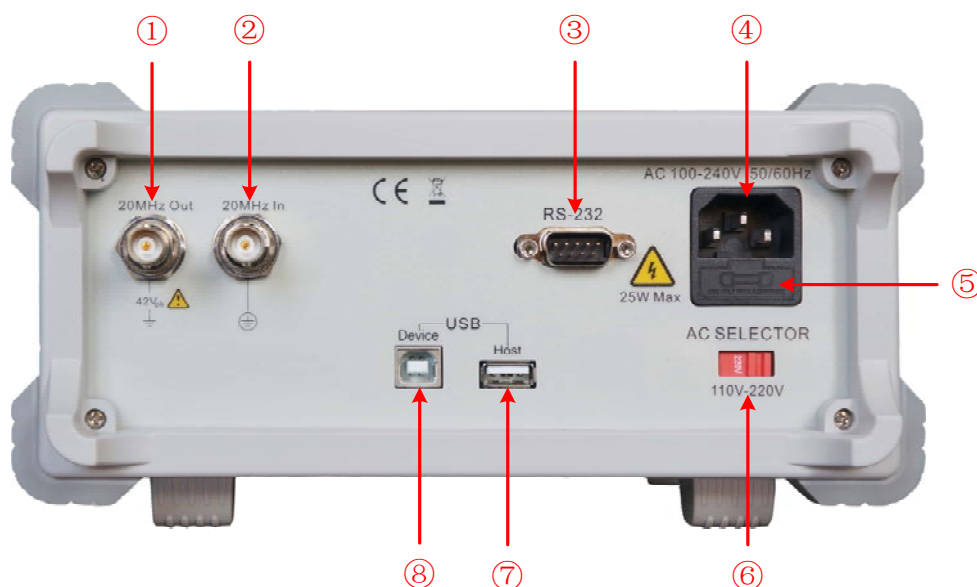

Figure 4-2 Rear panel overview
AG1022 adopt 110V/220V AC power source. Users should regulate the voltage scale of the **Power Switch** according to the standards in their own country (see *Figure 4-2*) at the rear panel and use an appropriate fuse.
- (1) Turn off the power button at the front panel and remove the power cord.
- (2) Check if the fuse installed before leaving factory (250 V, F2AL) can match with the selected voltage scale; if not, pry the cover open using a straight screwdriver (see ⑤ in *Figure 4-2*), change the fuse.
- (3) Regulate the **Power Switch** to the desired voltage scale.